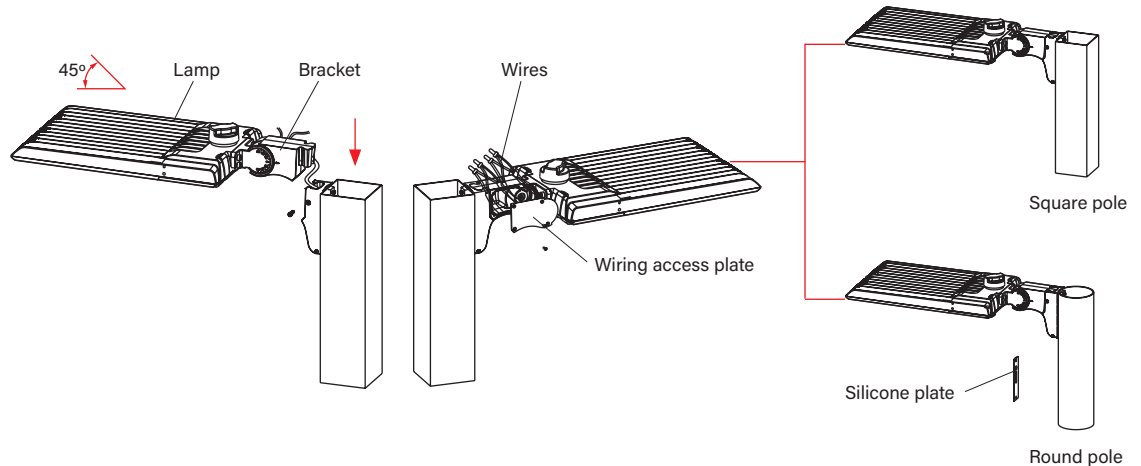

Figure 8
5. Install the fixture/pole mount assembly onto the pole mount base from the top down, and feed wiring into the wiring access area accordingly. (Figure 8)
7. Close the wiring access plate on the pole mount kit. (Figure 8)